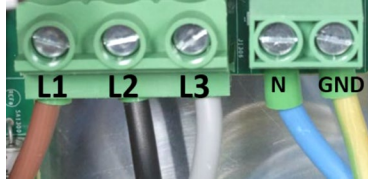

Figure 2: Inverter AC wire Terminals
- When installing multiple inverters, all inverters and the Backup Interface unit must have the same phase sequence and consistent phase mapping. Figure 2 shows the AC wire terminals of an inverter.